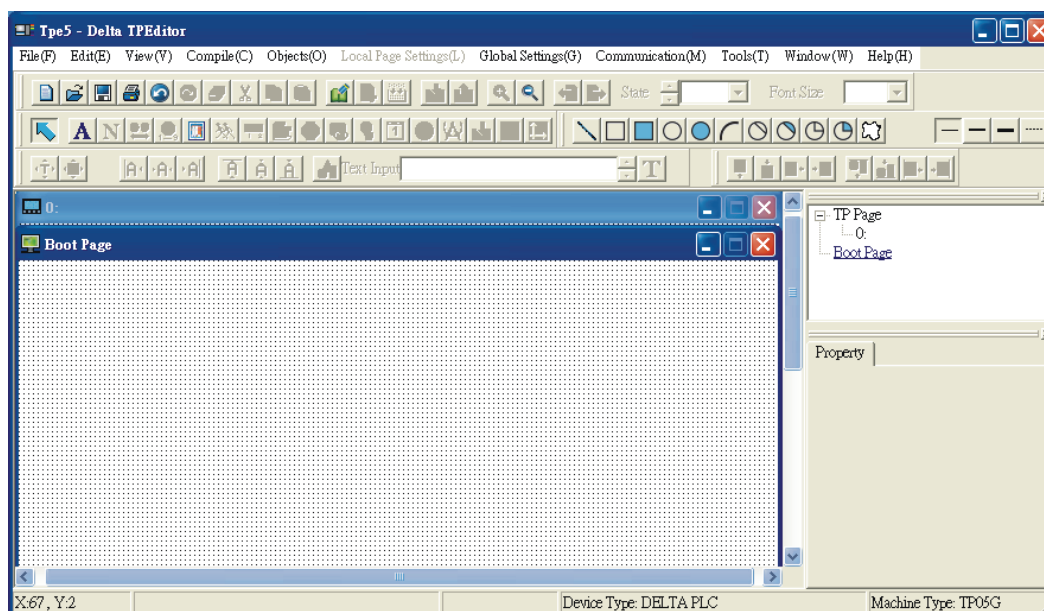

Figure 3-1
Step 1. Open TPEditor software program. Click  or select **File (F) > New** to create a new file. Then, click **View (V) > Boot Page**, and the Boot Page window will display on the screen (Figure 3-1).